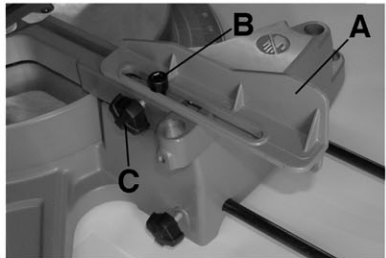

Figure 9
This miter saw comes with a back fence with fence extensions (A) Fig.9 at both ends which slide outwards for additional back support for those long workpieces. To adjust the position of each fence extension;
1. Loosen the fence extension cap screw (B) using supplied hex. key.
2. Loosen the fence extension rear lock knob (C).